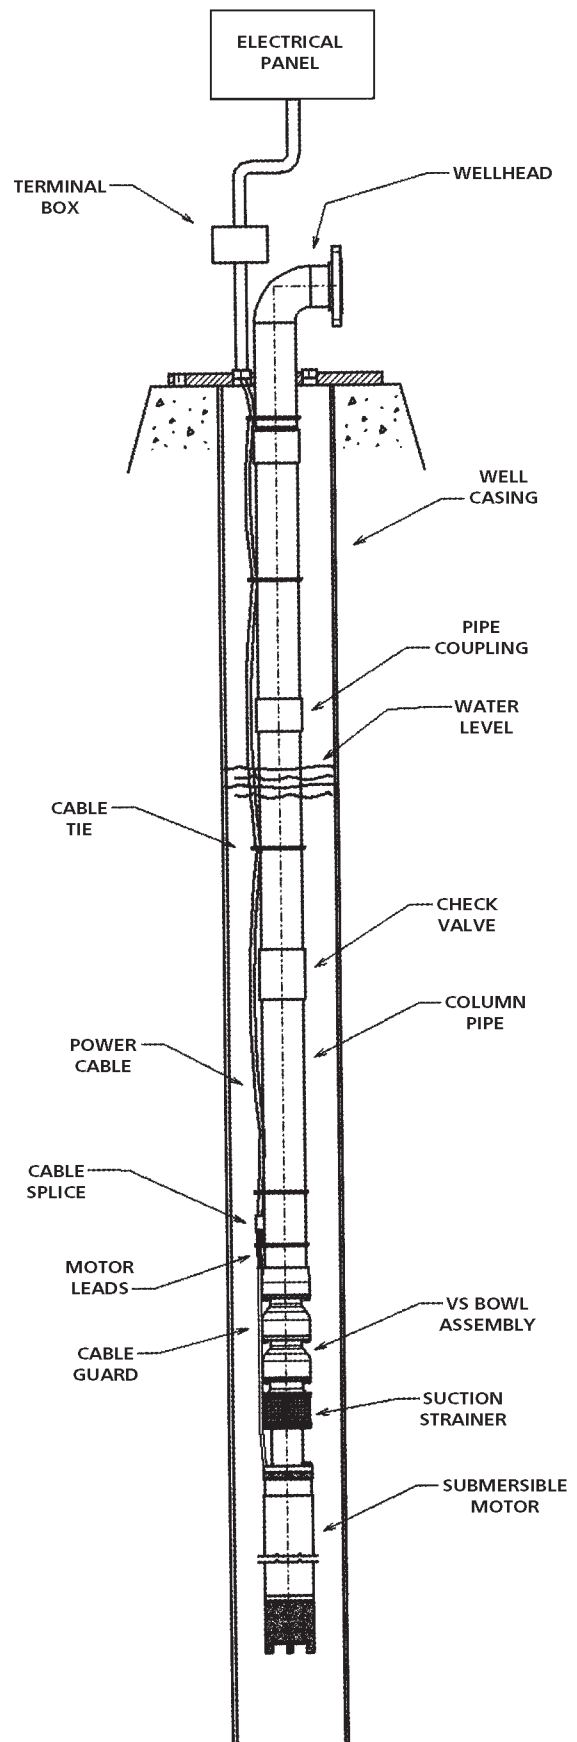

Figure 1 – Typical Submersible Pump Installation
Goulds Water Technology model VS pump is a submersible turbine pump designed for maximum dependability. See Figure 1 for typical VS pump.
4. Install a cable clamp on each side of the cable splice. *See Figure 1.* Be careful not to damage the cable. If an air line is to be installed, route it beside the cable, making sure that it is not pinched by the clamps. If there is any danger that the splice will rub against the well casing during installation, it should be protected by thick rubber chaffing pads or by a steel shield. Check that the grounding system is in place.
8. After the last piece of column pipe has been installed, install the well head. Install a cable clamp between the last column pipe coupling and the well head base. *See Figure 1.* Route the power cable and grounding system through the large threaded hole in the head base. Route the air line (if used) through one of the smaller threaded holes in the head base. The remaining small threaded hole is for connection of a well vent or other accessories. All of these holes are threaded with standard NPT or BSP pipe threads. If a gasket is required between the head base and its mounting surface, the gasket should be placed on the foundation prior to installing the well head.